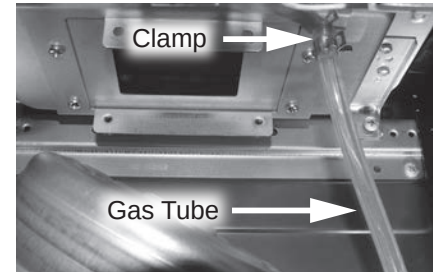

Figure 151 - Disconnecting clear gas tube
- 43 Locate the clear gas tube connected to the gas valve and primary heat exchanger assembly. Disconnect the clear gas tube from the primary heat exchanger assembly. See Figure 151.
76 Locate the clear gas tube previously disconnected in **Step 43**. Connect the clear gas tube to the primary heat exchanger. See Figure 151.